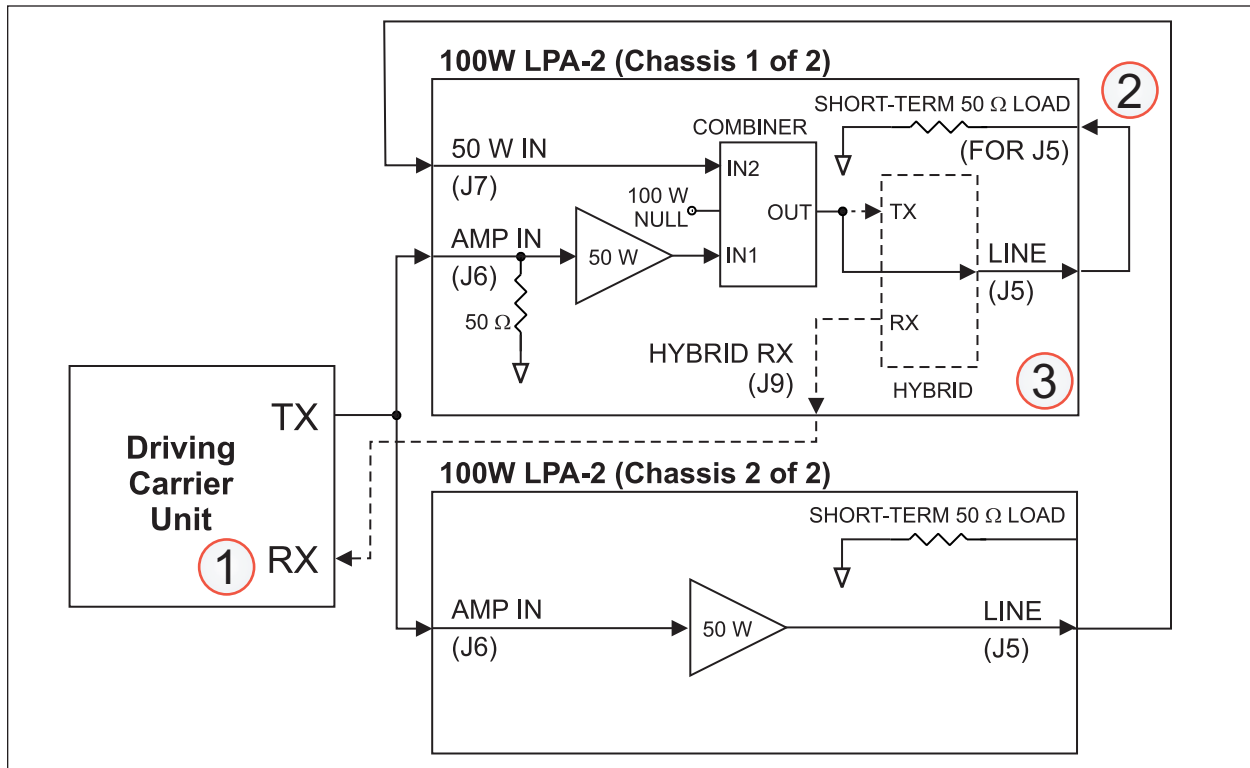

Figure 6-3. Simplified Connections – 100 W.
NOTES for Figure 6-3
1. Verify proper connections per the connection diagram, (Figure 6-3). Temporarily terminate the LINE (J5) output of the 100W LPA-2 with the built-in 50 Ω high-wattage load in chassis 1 of 2 by connecting it to the SHORT-TERM 50 Ω LOAD connector above it with a coax cable.